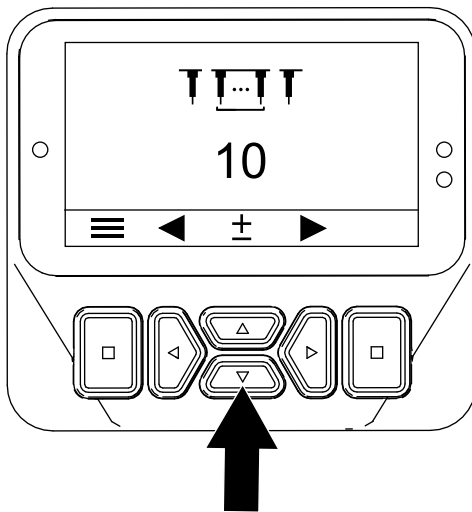

Figure 58
3. Press the right button until the Setting the Tine Quantity screen displays (Figure 58).
4. Adjust the tine quantity using the up and down buttons (Figure 58) as follows: